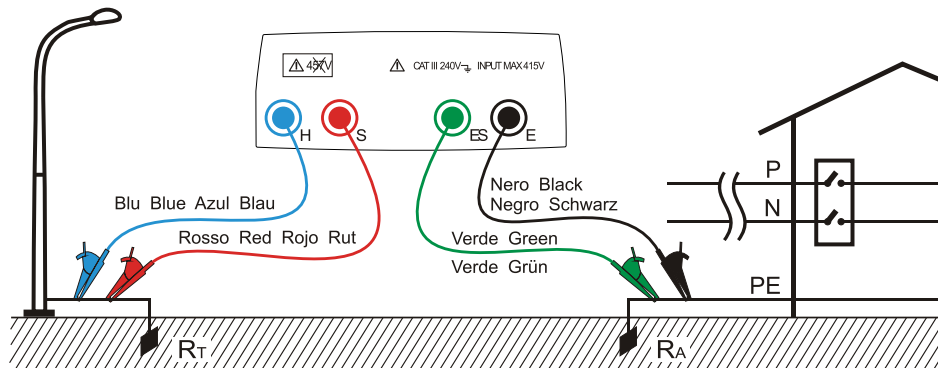

Fig. 3: Two-wire earth resistance measurement using an auxiliary rod
In Fig. 3 a lamp post is used as auxiliary rod, however any metal body driven into the ground can be used provided that the above mentioned requirements are met.
The instrument displays the sum value of $R_A + R_T$ as result (see Fig. 3 and Fig. 4). Therefore the measurement achieved is the closer to R_A (prospective value) the more negligible is the value R_T of the auxiliary rod with respect to R_A itself. In addition the measurement will be increased "for safety sake" by R_T , i.e. if $R_A + R_T$ results to be coordinated with protective conductors, R_A alone will be far more coordinated
6. Connect crocodiles to the auxiliary rods and to the installation under test (see Fig. 3 and Fig. 4)